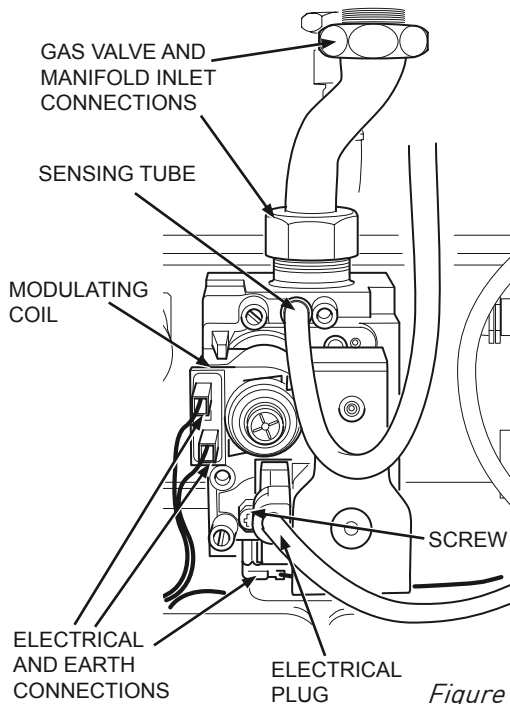

Figure 19.13
- Release the connection from gas valve and manifold inlet, retaining the washers for use on reassembly (Figure 19.13).